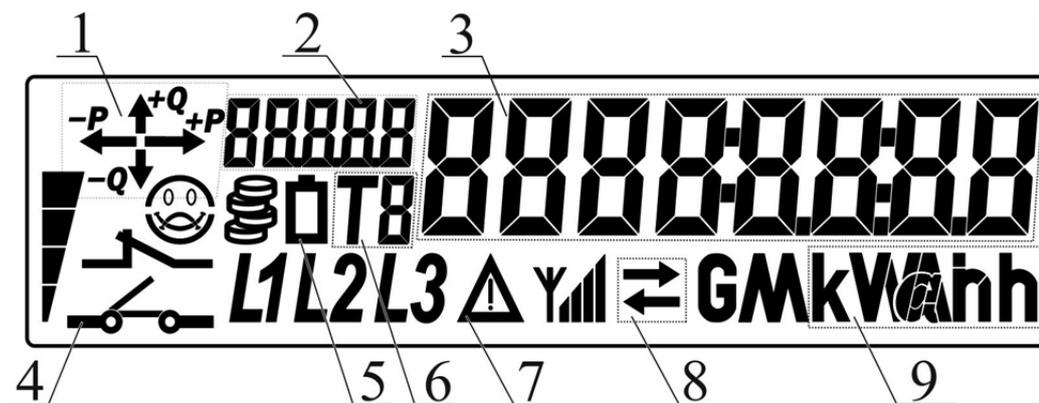

Figure 2. View of meters LCD.
The meters have a liquid crystal display (hereinafter - LCD), which is shown in Figure 2.
Emergency rate. In case of failure of the internal clock, the meters automatically turn on the emergency rate, recording all calculated energy values in the emergency rate register. The electronic display flashes the corresponding symbol Δ and the corresponding rate number while the emergency rate is turned on (see Figure 2, items 6 and 7 and «Table 7. Data showed on the meter's display »). The emergency rate number is set during parameterization.